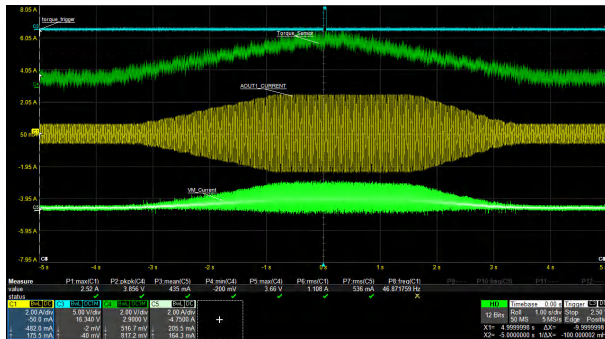
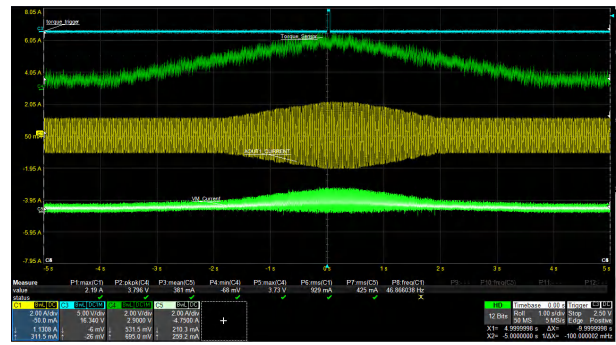

Figure 2-8. ATQ\_TRQ\_MIN = 0.6 A, ATQ\_UL = 40
Figure 2-11. ATQ\_TRQ\_MIN = 1.2 A, ATQ\_UL = 60
As mentioned in Section 2.2.1, the choice of ATQ\_TRQ\_MIN and ATQ\_UL influences how the control loop responds to load torque transients. This is shown in Figure 2-8 to Figure 2-11.
- In Figure 2-8, with lowest ATQ\_UL, the motor current reaches ATQ\_TRQ\_MAX earlier than the other settings. This setting therefore saves the least amount of power, though it has the quickest response time for fast load torque transients.
- In Figure 2-11, the motor current takes long time to increase. This setting saves the most power, but has the slowest response to load torque transients.